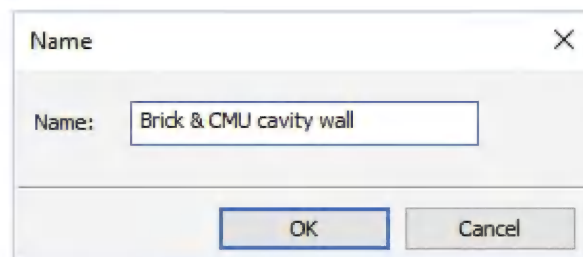

FIGURE 3-2.6 New wall type name
12. Enter **Brick & CMU cavity wall** for the new wall type name, and then click **OK** (Figure 3-2.6).